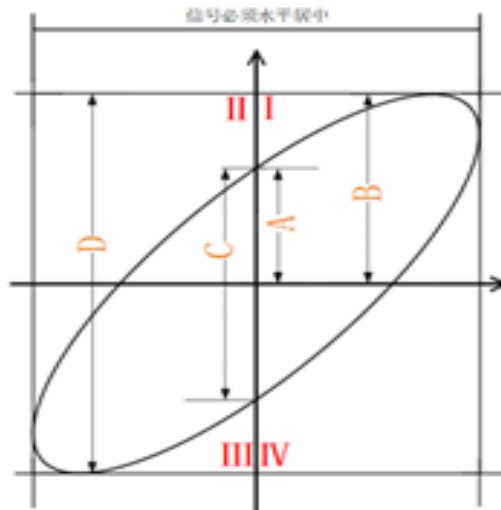

Figure 7.1 Measurement Schematic Diagram of Phase Deviation
4. Observing the measurement results in the above figure and based on the phase difference measurement principle diagram (Figure 7.1), it can be concluded that $A/B (C/D)=1$, that is, the difference angle between the input signals of the two channels is $\theta=\pm \arcsin 1=90^{\circ}$